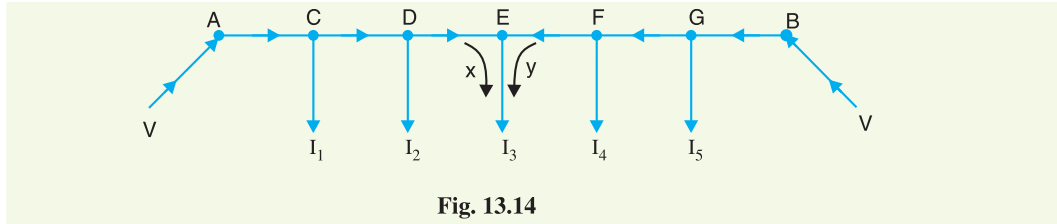

Fig. 13.14
- (i) **Two ends fed with equal voltages.** Consider a distributor AB fed at both ends with equal voltages V volts and having concentrated loads I_1, I_2, I_3, I_4 and I_5 at points C, D, E, F and G respectively as shown in Fig. 13.14. As we move away from one of the feeding points, say A , p.d. goes on decreasing till it reaches the minimum value at some load point, say E , and then again starts rising and becomes V volts as we reach the other feeding point B .